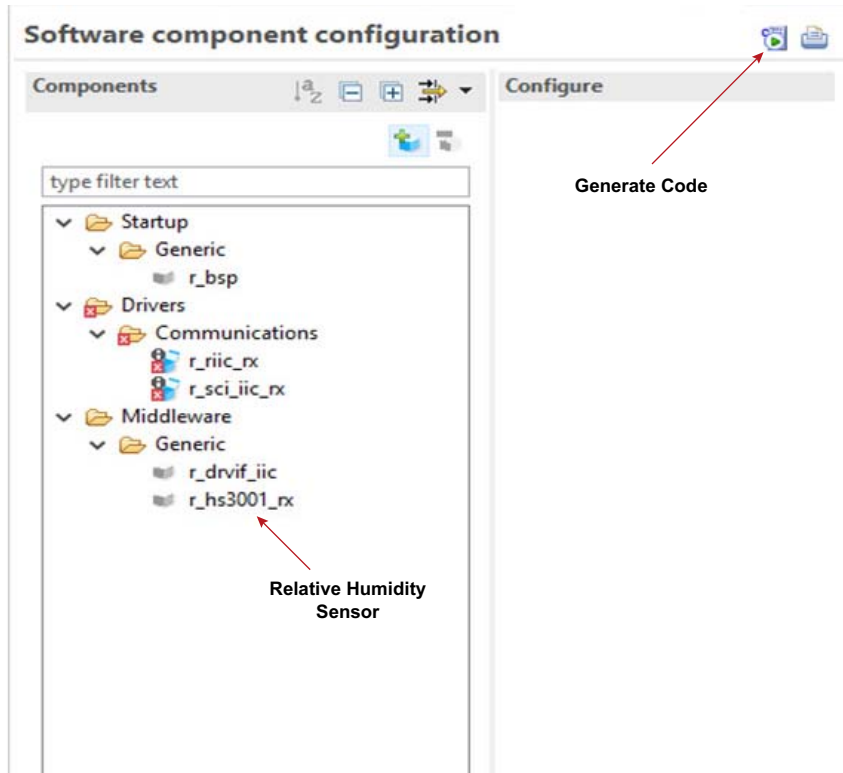

Figure 4. Component Configuration in Renesas e² Studio
1. Navigate to the **Components** tab, open the Middleware/Generic folder, and select the desired sensor. For the case shown in Figure 4, select the `r_hs3001_rx`.